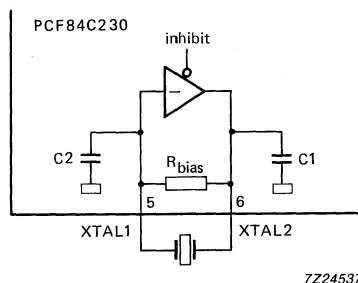

Fig.15 Oscillator with integrated elements.
**FUNCTIONAL DESCRIPTION** (continued)**Oscillator** (see Fig.15)